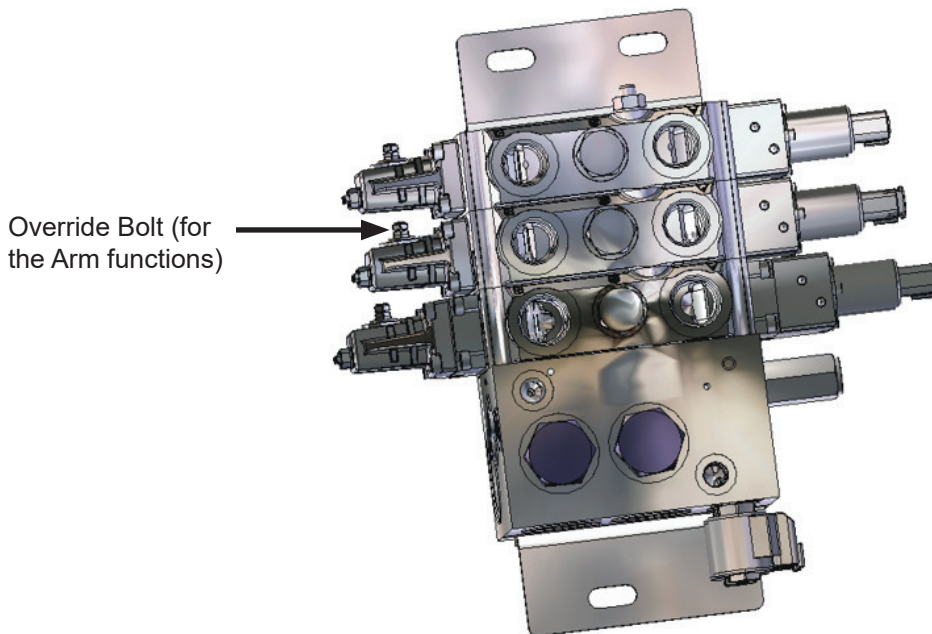

Figure 1
3. Locate the override bolt on the specific section of the valve body that will be worked on (Figure 1 shows an example of one override bolt). **NOTE:** There is an override per function on the valve body.
On Meridian Front Loaders 2020 to current, the valve overrides are located as shown in Figure 1.
This older valve body has the same override bolt as shown in Figure 1, and the technician can use a 9mm wrench on the override bolt to shift the spool on the valve body to release any energy in the lines.